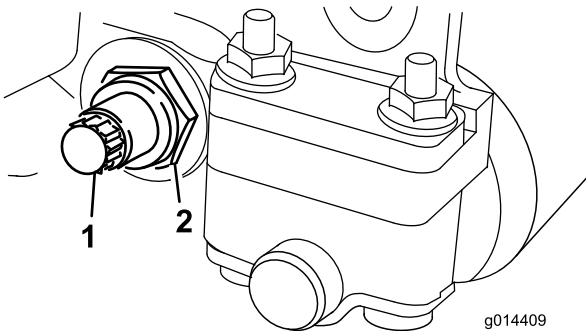

Figure 19
3. On each side of the machine, loosen the locknut securing the bedbar bolt (Figure 19).
4. Remove each bedbar bolt allowing the bedbar to be pulled downward and removed from the machine bolt (Figure 19).